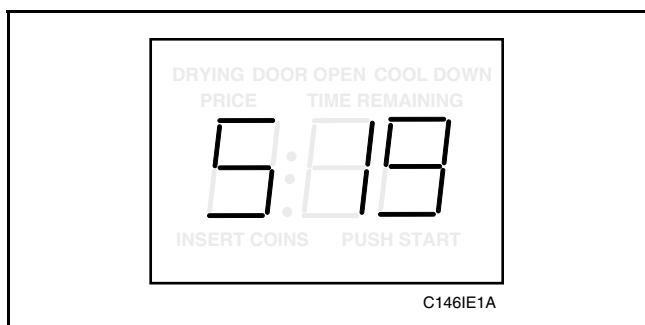

Figure 19
2. While pressing and holding the HIGH TEMP pad with one hand, press the MED TEMP pad with the other hand. Programmable option number 1, (Audio Signal “SIg”), will appear in the VFD, *Figure 19*.